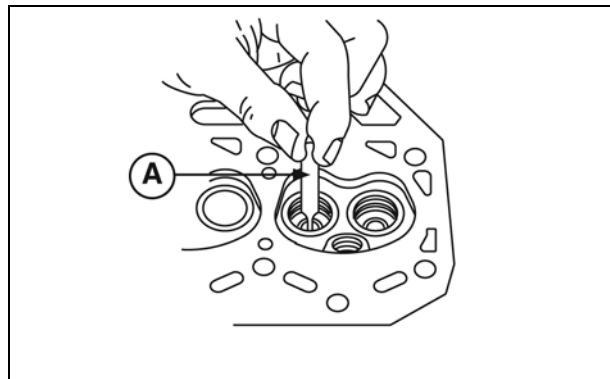

Figure 14
5. Inspect valve guide bushing for damage. Check valve guide bushings for wear using Reject Gauge #19382, (**A**, Figure 14).